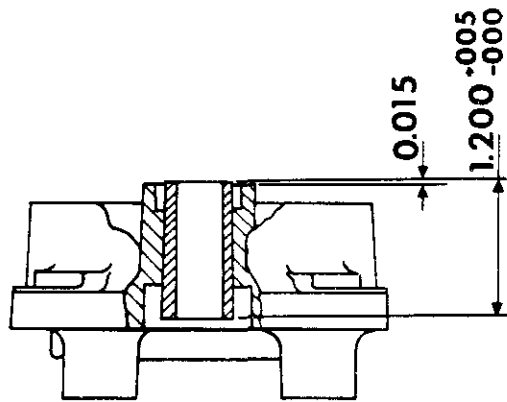

Figure 4.
4. Use a suitable cutting tool and turn so that overall length of bushing is  $1.200 + .005 - .000$  inch as shown in figure 4. (A Carbide tipped tool is recommended.)
of reworked bushing. See figure 4.